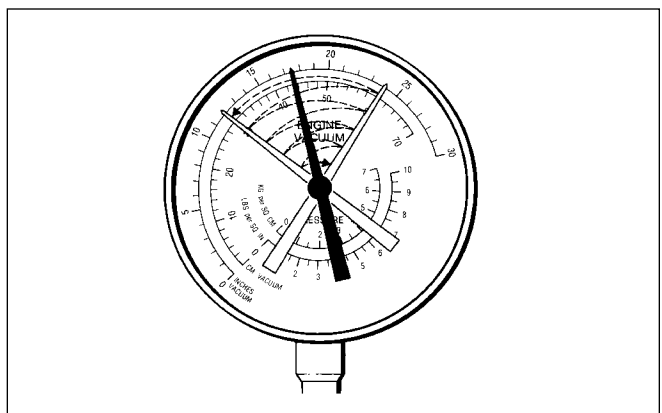

Fig. 1-14. Weak valve springs. Needle fluctuates when brought off idle.
- Weak valve springs will produce a normal reading at idle, but the needle will fluctuate rapidly between 12 and 24 inches as engine speed increases, figure 1-14